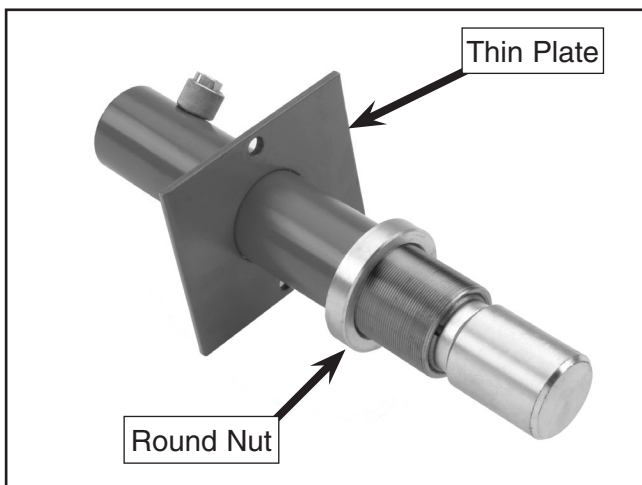

Figure 4. Thin plate installation.
5. Slide the thin plate over the pressure head cylinder and screw a round nut onto the pressure head (**Figure 4**).